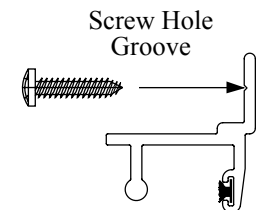
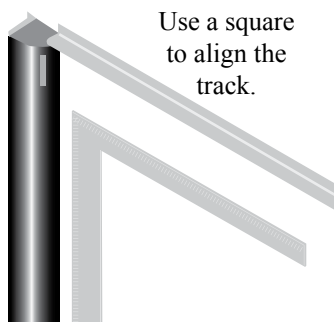
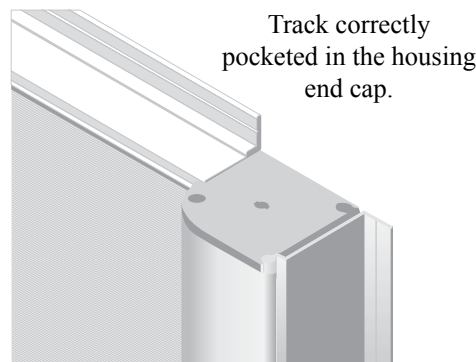
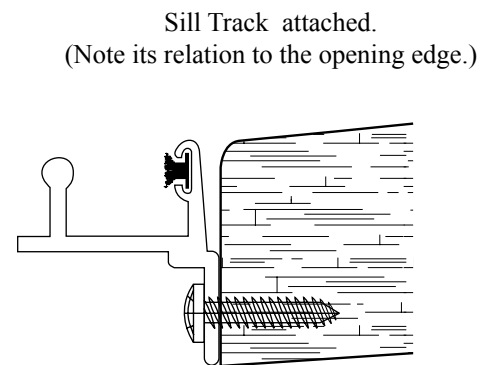

Figure 3
Figure 4
Figure 5
Figure 6
Drill three (3) 3/16" clearance holes in each track, one approximately 2" from each end, one approximately in the middle. Note: These hole locations may be pre-drilled from the factory. Locate the holes using the groove in the track flange (Figure 3). Insert the head track into the drawbar wheel housing, and slide it into the pocket in the housing end cap. Carefully align the track with the housing, using a framing square (Figure 4) to insure accuracy. Make sure the track is fully seated in the housing end cap pocket (Figure 5) and attach the track to the opening using the #8 x 1 pan head screws provided. Repeat this process for the sill track (Figure 6).
Both doors in a French set will travel along the same tracks. Locate the Head Track (R6046) and feed it on to the top roller guide of the inactive door (See Figure 5 on Page 2). Now take the opposite end of the Head Track and align it into the Housing end cap notch on the active door. The Head Track on the inactive side should now be in the housing notch location. Fasten the Track to the header using the #8 x 1" flat head screws provided.